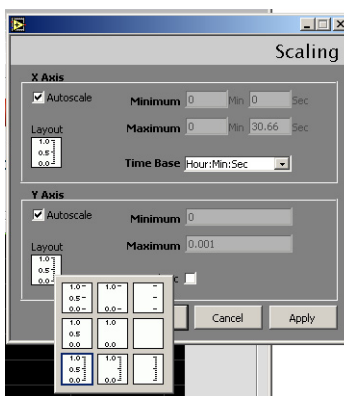

Figure 2-8 Layout Popup
6. Click the **Layout** box and a popup appears to select the desired scale layout for the axis (Figure 2-8).